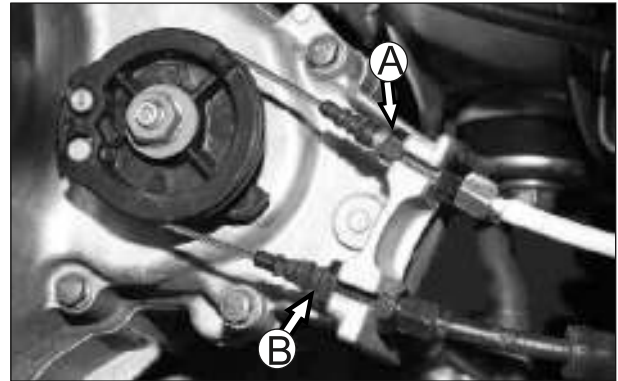

Fig. 5.15
- Loosen the lock nut (A) from adjuster cable assembly white gear shift.(Fig. 5.15)
- Loosen the lock nut (B) from adjuster cable assembly black gear shift.(Fig. 5.15)